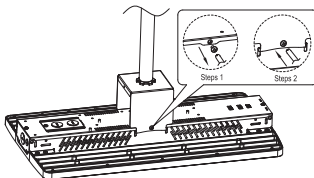

Figure 4
- Step2. First, remove the screws at this position, then install the bracket and tighten the screws(Figure 4);